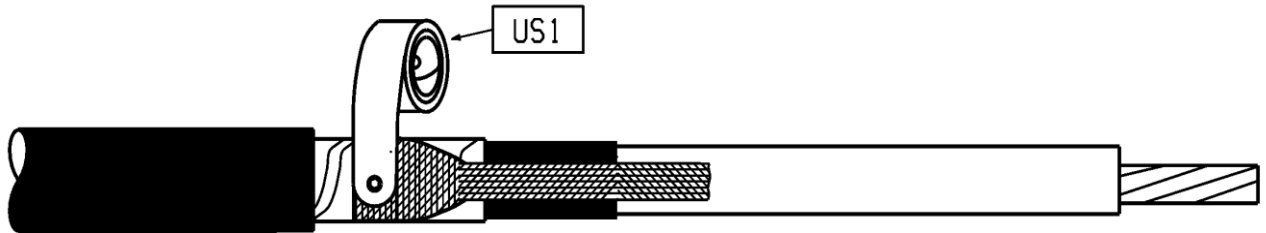

Figure 30
4. Stretch the width of the braid at the location where the constant force springs will be installed. The goal is to maximize the contact area of the braid with the concentric neutrals / copper tape / lead sheath / flat straps. A couple laps of vinyl tape may be placed on the braids to temporarily hold them while the springs are installed. Wrap the constant force spring over the braid. Use up all of the spring. Caution: There must be some metal to metal contact between the braids and the springs – to prevent any partial discharge at this location. Refer to Figure 30.